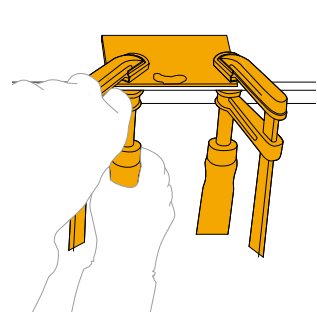

fig. 6
- fix a plexiglass slide to the slab with clamps, in the damaged area (fig. 6);